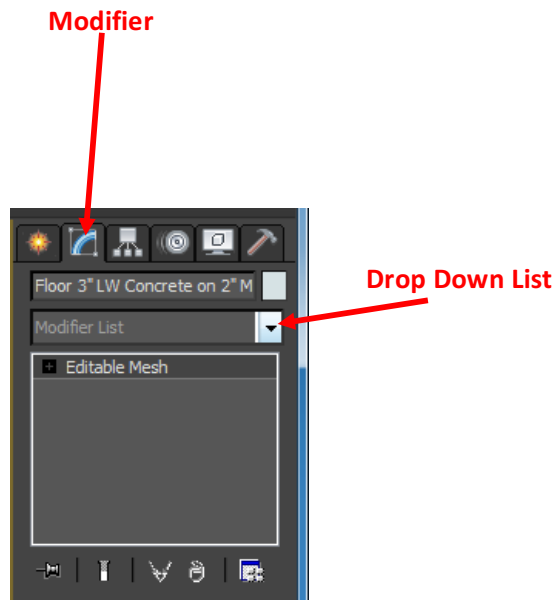

FIGURE 15: MODIFIER TAB
- i. Reducing polygon by using “Prooptimizer” and “MultiRes” modifier. To apply modifier to an object: select the object → Click on Modifier Tab (See Figure 15) → click the drop down list → search for “Pro-optimizer” or “MultiRes” → Calculate the initial number of Vertex by clicking on ‘Calculate’ → Reduce the ‘Vertex %’ to desired level and press ‘Enter. The polygon number of the selected object should be significantly reduced (See Figure 16).